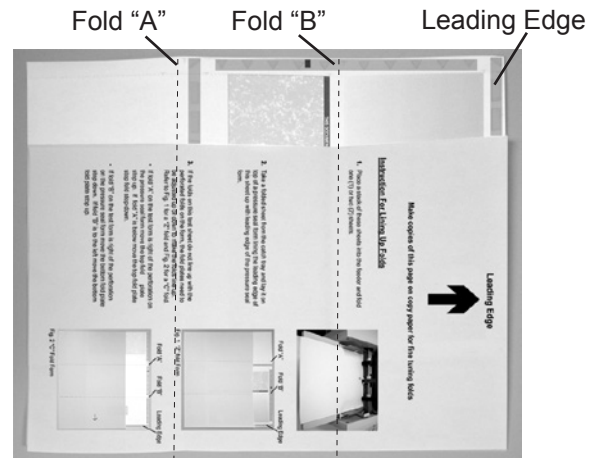

Fig. 16 "Z" fold Form
1. Place a stack of these sheets into the feeder and fold one (1) or two (2) sheets.
3. If the folds on this test sheet do not line up with the perforated folds on the form, the fold plates need to be adjusted up or down to make the folds line up. Refer to Fig. 16 for a "Z" fold and Fig. 17 for a "C" fold.